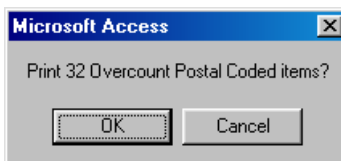

Figure 3-7
1. Click **Print Postal Coded Pieces** in the PB FIRST main menu. A message appears (Figure 3-7) verifying the number of Overcount Postal Coded items to print: